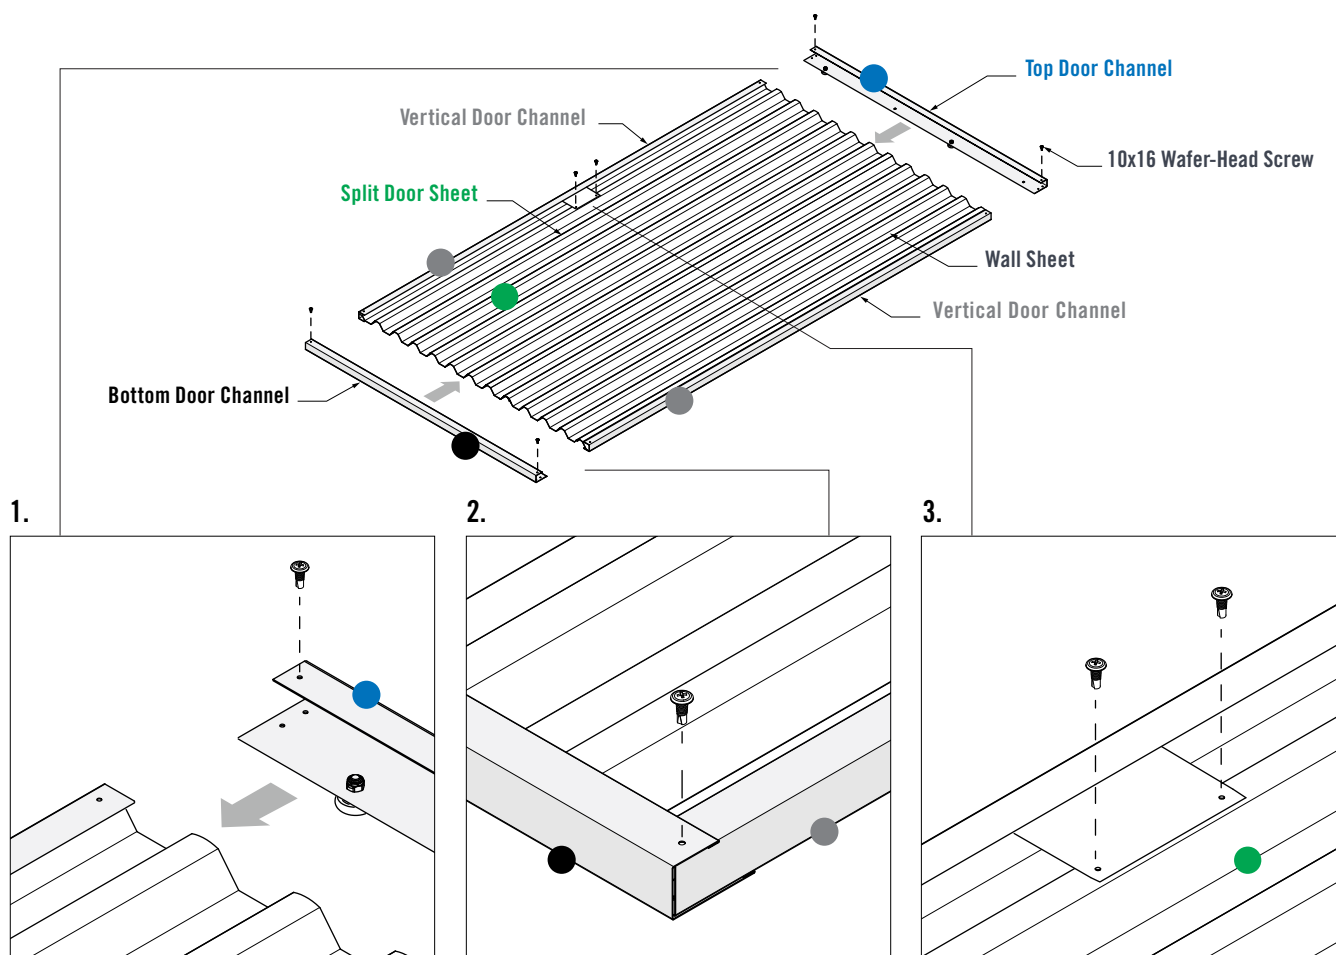

FIGURE 7.5
1. Fit the Vertical Door Channels over the side of the door sheets, then fit the **Top** and **Bottom Door Channels** over the door sheet ends. Ensure the lip of the **Top** and **Bottom Door Channels** fit over the **Vertical Door Channels** (Figure 7.5).
2. Fasten one 10x16 Wafer-Head Screw through the pilot holes in the corner of each **Top** & **Bottom Channel** and into the **Vertical Door Channels** (Figure 7.5).
3. Crest-fix two 10x16 Wafer-Head Screws through the pilot holes in the **Handle Mount** and into the **Split Door Sheet** (Figure 7.5).